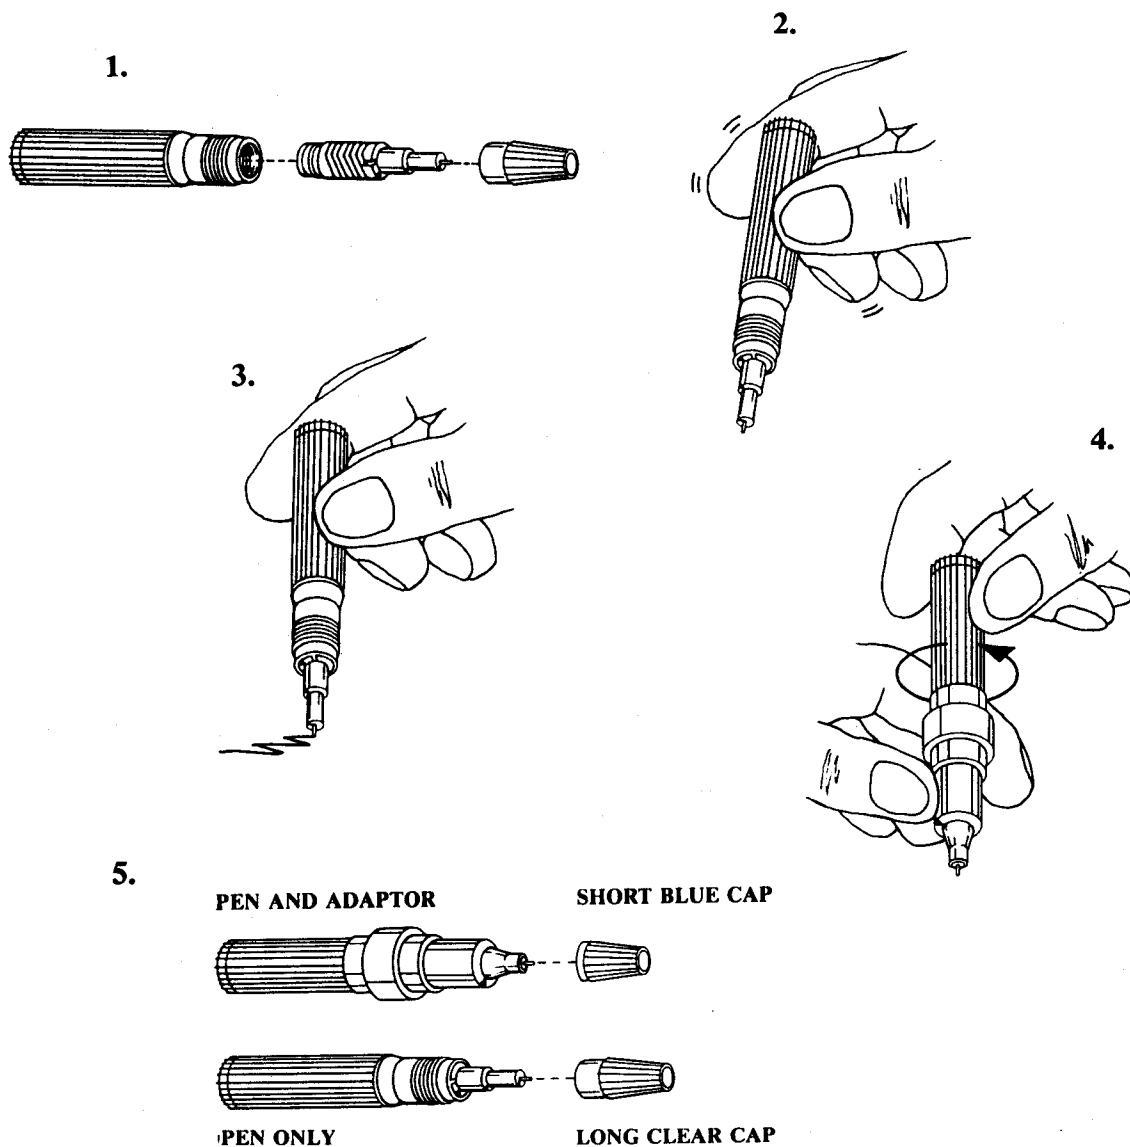

FIGURE 1-9.
1. Insert a pen tip into each ink cartridge and then place a cap on each pen. To use a pen for the first time, press downward on the pen cap to push the nib into the body of the ink cartridge to break its seal. See Figure 1-9.